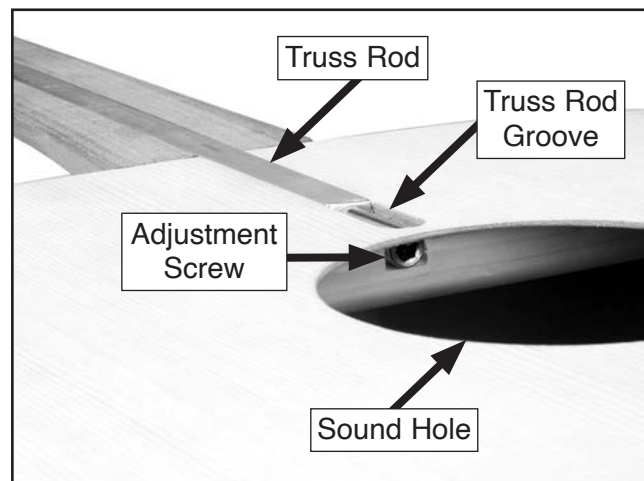

Figure 11. Truss rod pressed into groove.
1. With flat side of truss rod facing up, press rod into groove in neck and body (see **Figure 11**). Face of truss rod must be flush with face of neck and body along entire length of groove.
3. Apply a couple of dabs of silicone sealant at each end of truss rod groove, and a couple of dabs along bottom of groove, then press truss rod into place, ensuring adjustment screw at end of truss rod faces sound hole in guitar body (see **Figure 11**).